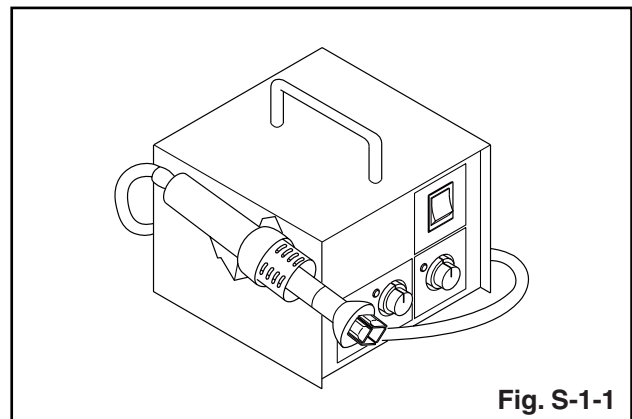

Fig. S-1-1
1. Prepare the hot-air flat pack-IC desoldering machine, then apply hot air to the Flat Pack-IC (about 5 to 6 seconds). (Fig. S-1-1)